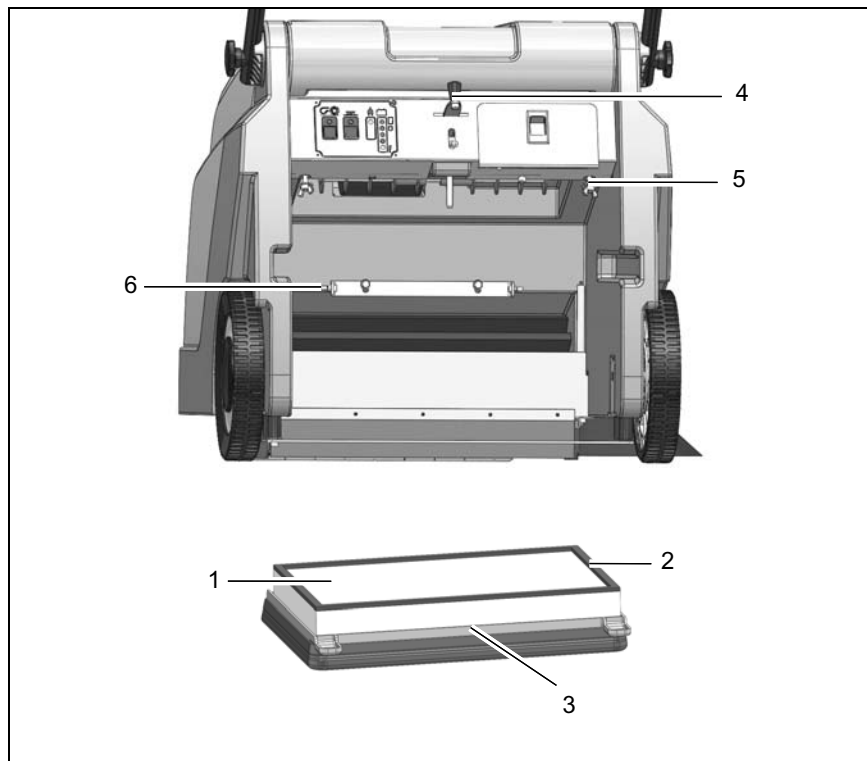

Fig.10
Clean the filter (Fig. 10/1) in the dust vacuum as necessary using the shaking device (Fig. 10/4). In the case of extreme accumulation of dirt, clean the filter as follows:
2. Loosen the wing bolts (Fig. 10/5). Pivot the filter support frame (Fig. 10/3) down and remove it.
5. Insert the correct side of filter in the filter support frame. The sealing strip (Fig. 10/2) must point towards the suction turbine!
6. Hook the filter support frame in the holder (Fig. 10/6) and fix in place with the wing bolts.
Check the filter (Fig. 10/1) every 250 operating hours for signs of wear and change it as necessary.
2. Unscrew the wing bolts (Fig. 10/5). Pivot the filter support frame (Fig. 10/3) down and remove it.
4. Insert the correct side of the new filter in the filter support frame. The sealing strip (Fig. 10/2) must point towards the suction turbine!
5. Hook the filter support frame in the holder (Fig. 10/6), if necessary, and fix in place with the wing bolts.
Check the fill level of the sweeper's container (Fig. 10/1) at regular intervals (max. load capacity 25 kg) and empty as necessary.
1. Switch the machine off and pull the locking mechanism (Fig. 10/2) on the sweeper's container (Fig. 10/1) upwards.
2. Pull the sweeper's container to the rear out of the machine using the handle (Fig. 10/4) and dispose of the waste according to the applicable environmental laws.
Check the seal (Fig. 10/3) weekly for signs of wear and change it as necessary.
1. Switch off the machine and pull the locking mechanism (Fig. 10/2) on the sweeper's container (Fig. 10/1) upwards.
2. Pull the sweepings container (Fig. 10/3) to the rear and out of the ma-
chine using the handle (Fig. 10/4).